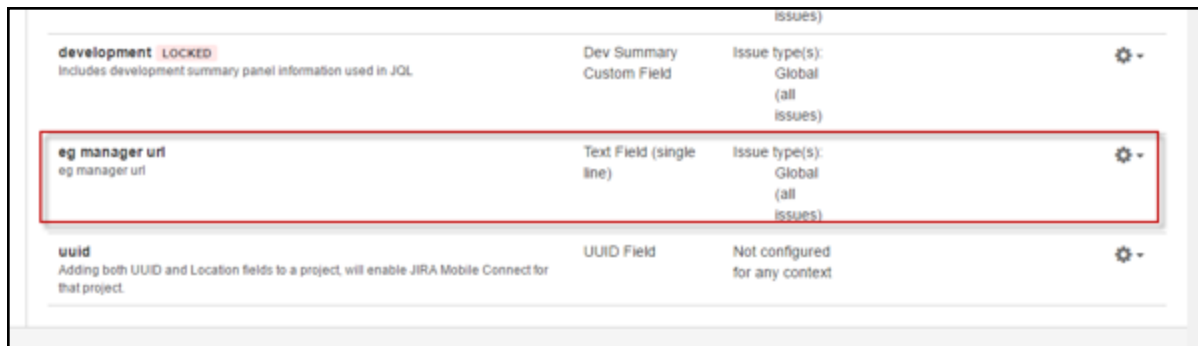

Figure 5.47: Locating the 'eG manager URL' field
- Figure 5.47 will then appear listing all the custom fields that have been created in JIRA. Browse the list until you locate the 'eg manager url' field.